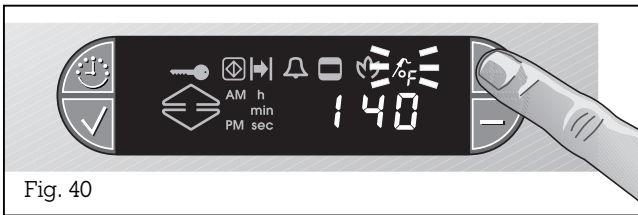

Fig. 40
- Press the + key. The ^ (Meat probe) symbol flashes and the suggested value of 140 °F / 60 °C appears on the display. (Fig. 40)